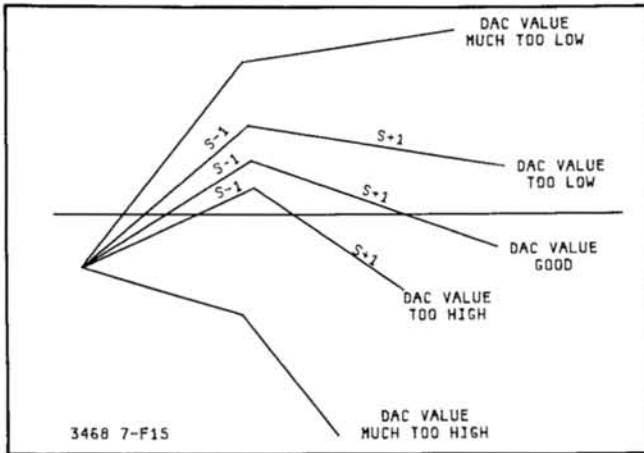

Figure 7-F-15. Determining the DAC Setting
7-F-47. The correct DAC setting is determined during the time when the S + 1 and S-1 currents are applied. These currents are applied after the first set of S-1 slopes have crossed zero (see paragraph 7-F-45, step g). Since both S + 1 and S-1 currents have the same amplitude, the S + 1 and S-1 slopes should have the same magnitude (i.e. zero crossing should occur at a certain time). If a difference in magnitude is noted by the A/D Controller, the DAC is adjusted until the magnitude of the S + 1 and S-1 slopes are the same. This is illustrated in Figure 7-F-15.
**7-F-48. Rundown Slope Generation.** The S-4 and S + 4 slopes are generated the same way it is done for the runup operation (see paragraphs 7-F-38). The only difference is that they only depend on the applied S-4 and S + 4 currents, not the input current. The S-0 slope is generated the same way as the S-0 slope in runup (see paragraph 7-F-39). The S-3 and S-1 currents use the same circuitry configuration as the S-4 current (see Figure 7-F-12), but use different resistor values. The resistor values are such that the S-3 current is 1/10 the
S-4 current and the S-1 current is 1/1000 the S-4 current. The S+2 and S+1 currents use the same circuitry configuration as the S+4 current (see Figure 7-F-11). In this case, resistor values chosen are such that the S+2 current is 1/100 the value of S+4 current and S+1 is 1/1000 the value of S+4.